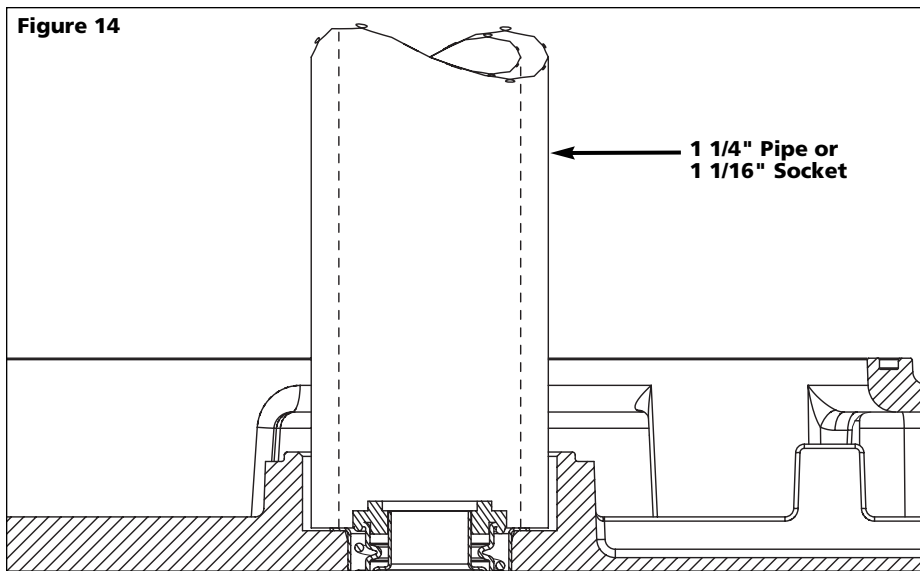

Figure 14
2. To replace the seal head into the pump body, set the pump body with the engine side down on a solid surface. Press the seal into the hole with a section of 1 1/4" ID pipe or a 1 1/16" [27mm] socket. Do not press on carbon section as it is easily damaged (See Figure 14).